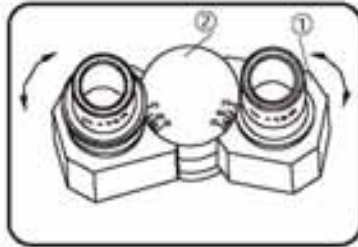

Fig. 19
(Fig. 19)
1. While looking through the eyepiece lenses, adjust the interpupillar distance by sliding the interpupillar distance adjustment seat ① left and right. (Fig. 19)
The interpupillar distance adjustment seat ① is provided with an interpupillar distance scale ②. By memorizing your interpupillar distance according to the scale, you can adjust the interpupillar distance easily next time. (Fig. 19)